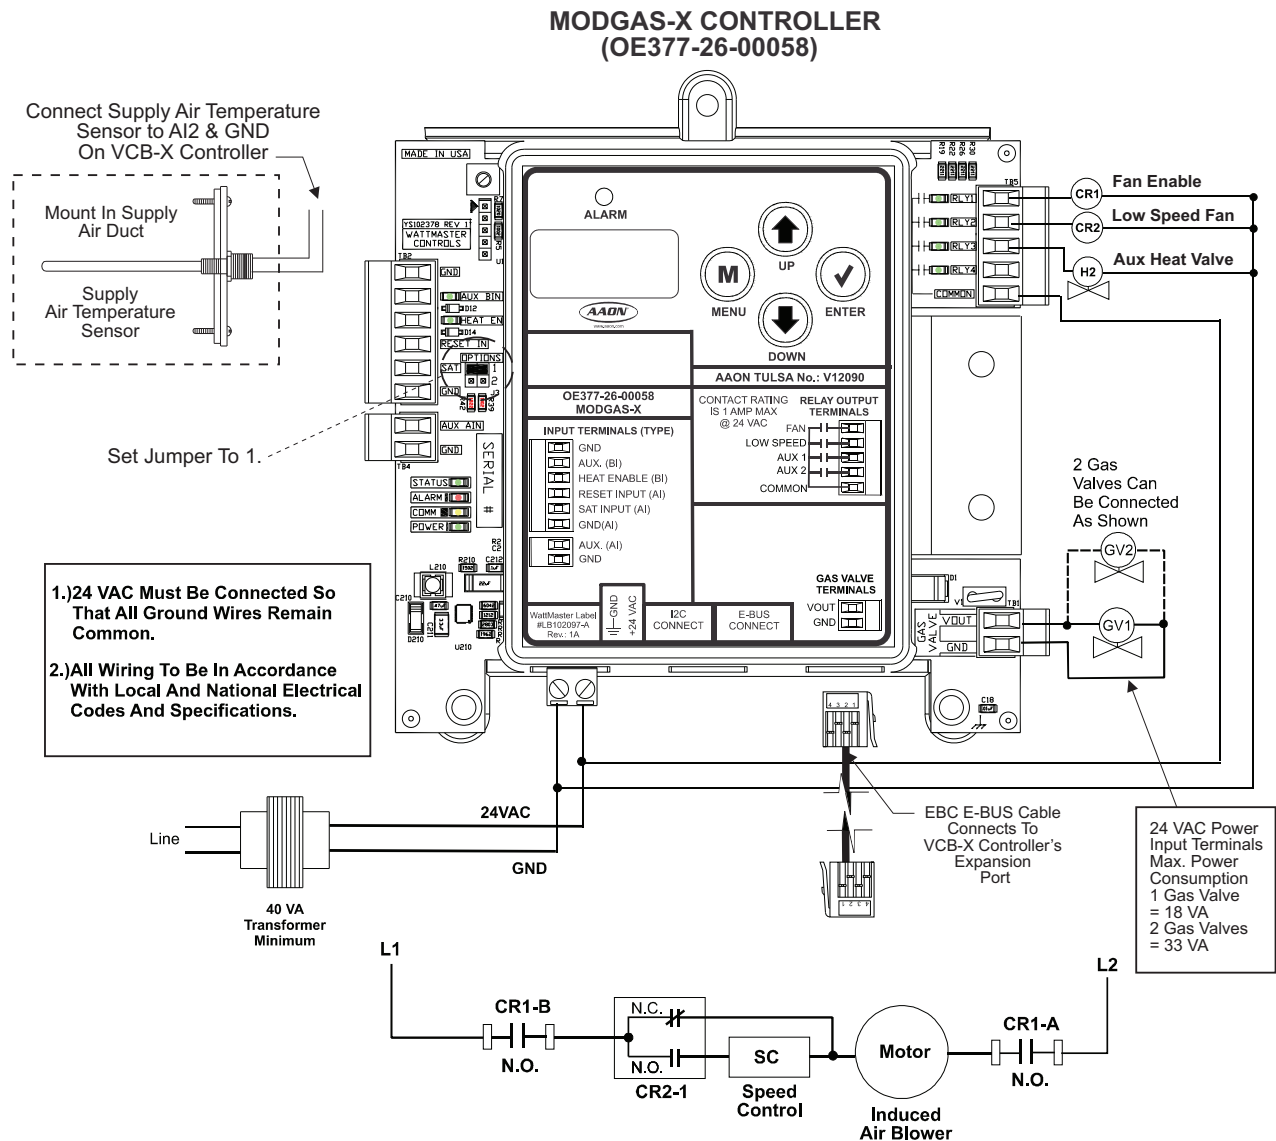

Figure 39: MODGAS-X Controller to VCB-X Controller Wiring Diagram
The OE377-26-00058 MODGAS-X Controller (AAON Part No. V12090) is designed to modulate up to (2) gas valves to maintain a desired Discharge Air Temperature. It also controls the speed of the induced draft fan to maintain proper combustion in the heat exchanger. The MODGAS-X Controller directly connects to the VCB-X Controller or indirectly using an E-BUS Expansion Board via an EBC E-BUS cable. See **Figure 39**.